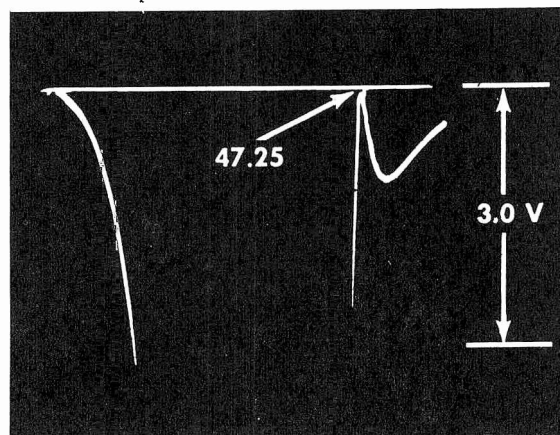

Fig. 11 Expanded View of the 47.25 Mc Trap,
5. Connect the sweep generator to terminal "A" (converter grid, Fig. 1 or 2 depending on tuner). Connect terminal "F" to chassis and connect a jumper between terminal "E" and the junction of the 68 and 1500 ohm resistors in the cathode of the first IF. This provides a "Blow Up" of the 47.25 Mc trap (Fig. 11). Adjust the 47.25 Mc trap for minimum marker amplitude.